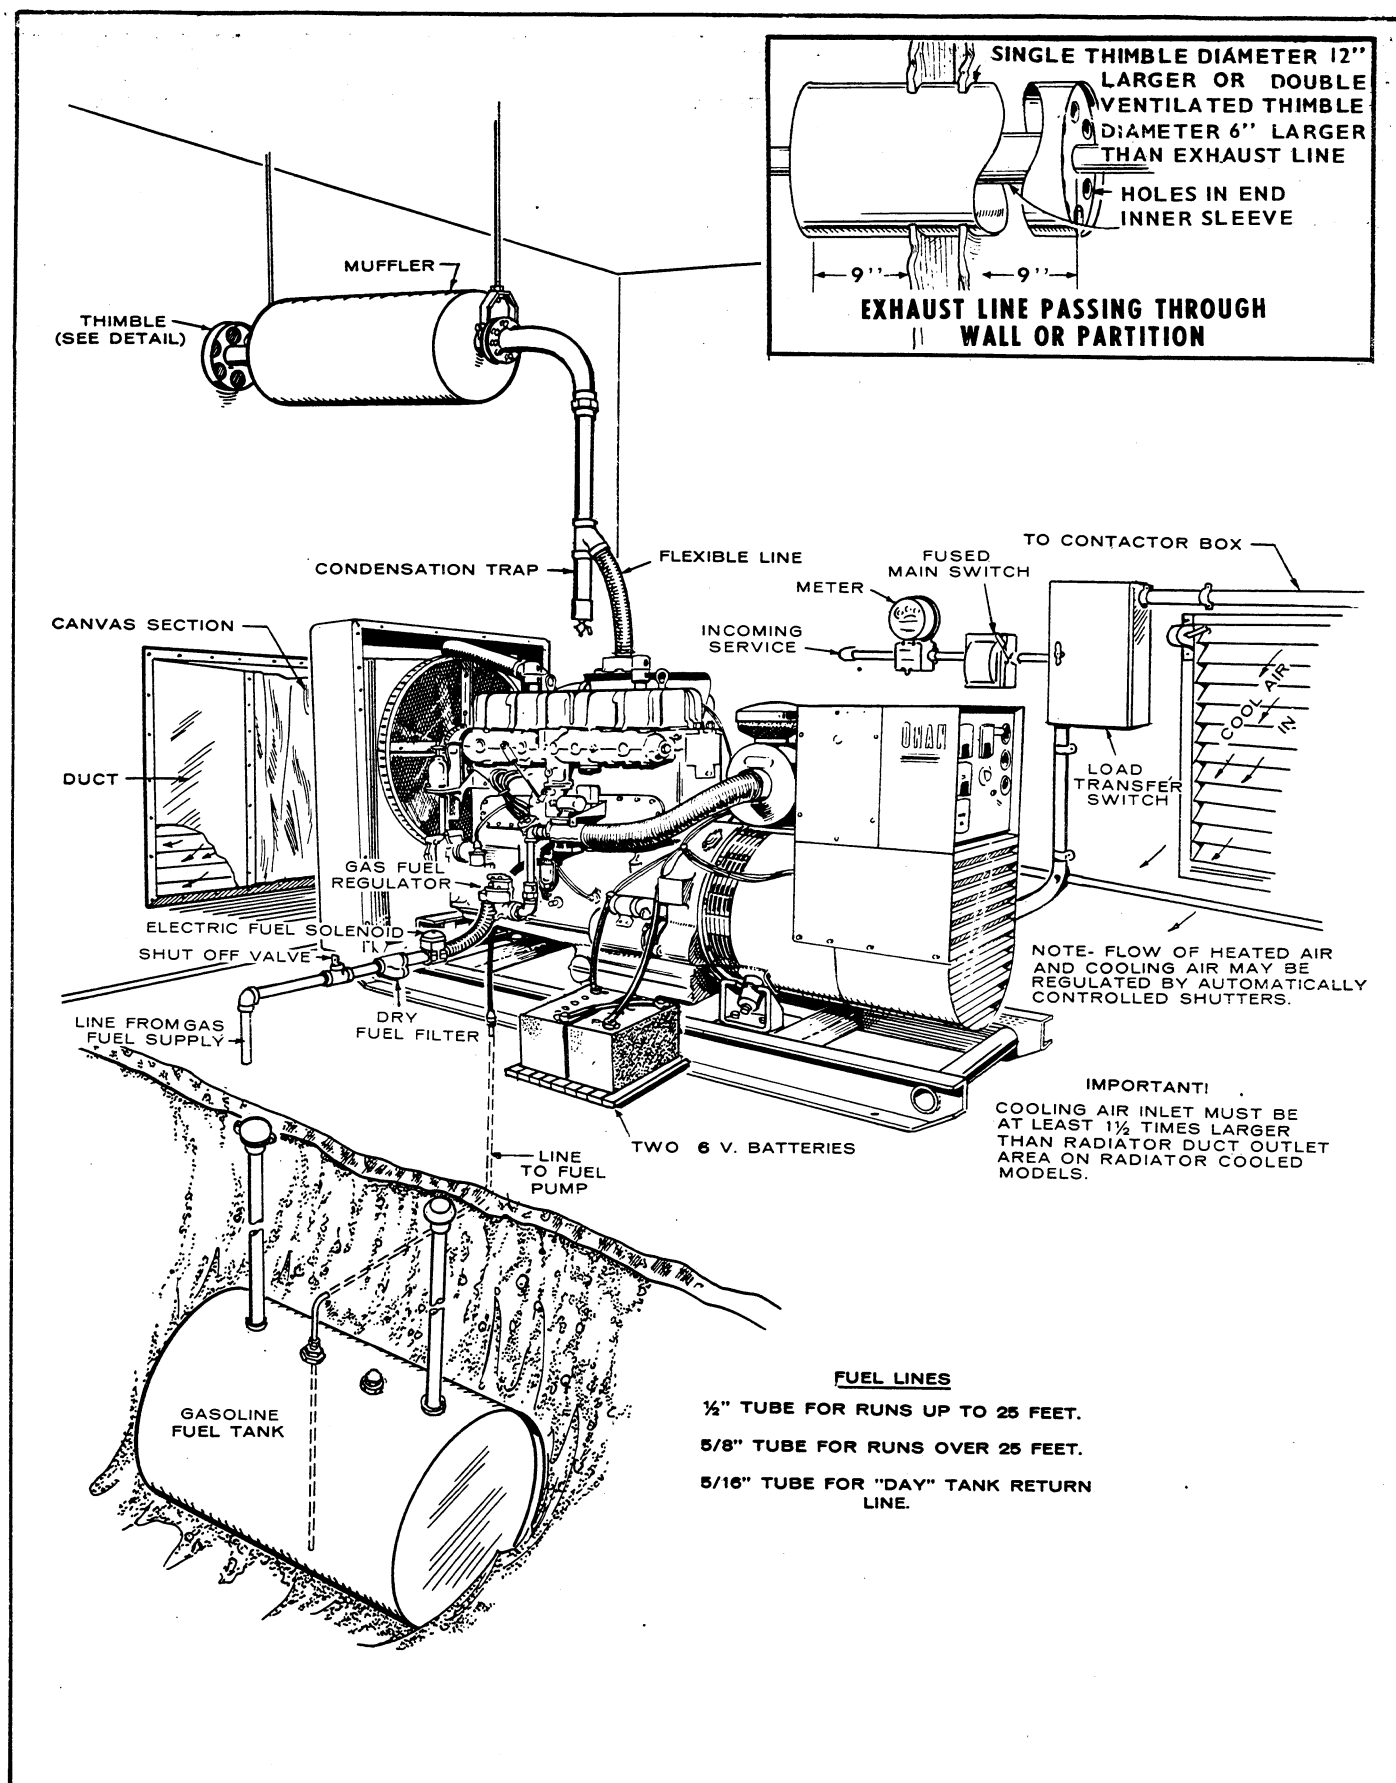

FIGURE 5. TYPICAL INSTALLATION — GAS/GASOLINE FUEL
2. **Combination Gas-Gasoline (Figure 5):** These sets are designed for normal operation on gas fuel, with provisions for emergency operation on gasoline. Follow procedures given for gas fuel connections. A reservoir tank is sometimes provided, so a fuel return line may be necessary as described for gasoline fuel.